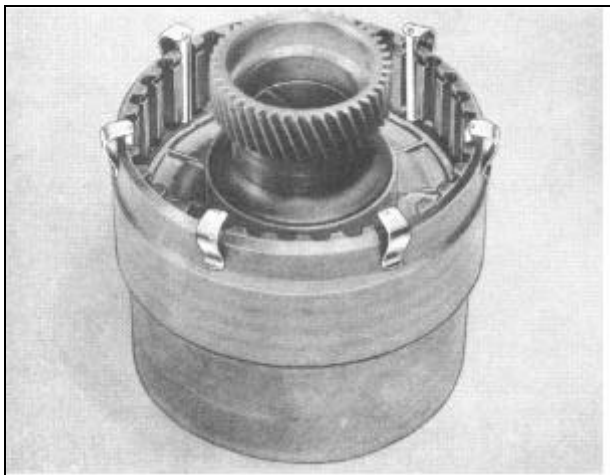

FIGURE 116
33. Install the Piston Installing Pins J-5487 in the grooves of the low brake drum equally spaced as shown in Figure 116. These pins will allow the clutch piston oil seal ring to slip past the circular grooves inside the low brake drum. Lift the piston out of the drum using needle nose pliers.